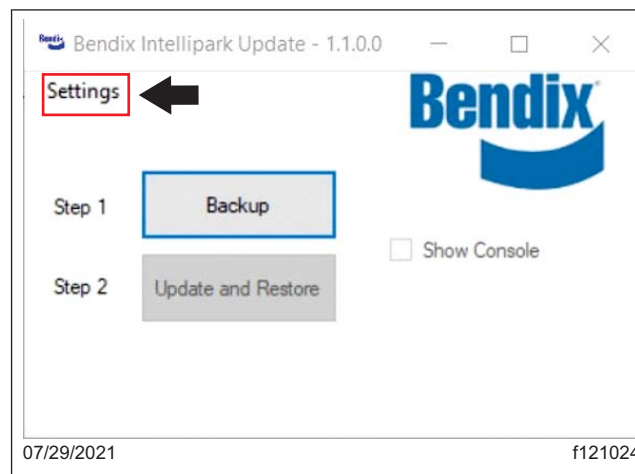

Fig. 6, Selecting Settings
5. In the Bendix Intellipark update application window, go to 'Settings,' then select the RP1210 device used for communicating with the laptop. Select 'J1939:Baud=Auto' from the dropdown list, then select 'Save.' See Fig. 6 and Fig. 7.